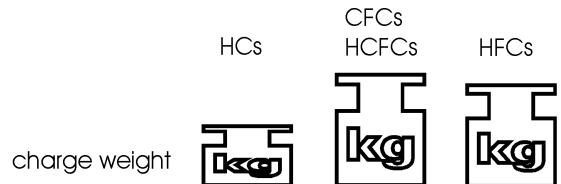

Figure 2-4
- When charging hydrocarbons **by weight, 40 to 45% of the halocarbon charge is used**, as shown in figure 2-4.